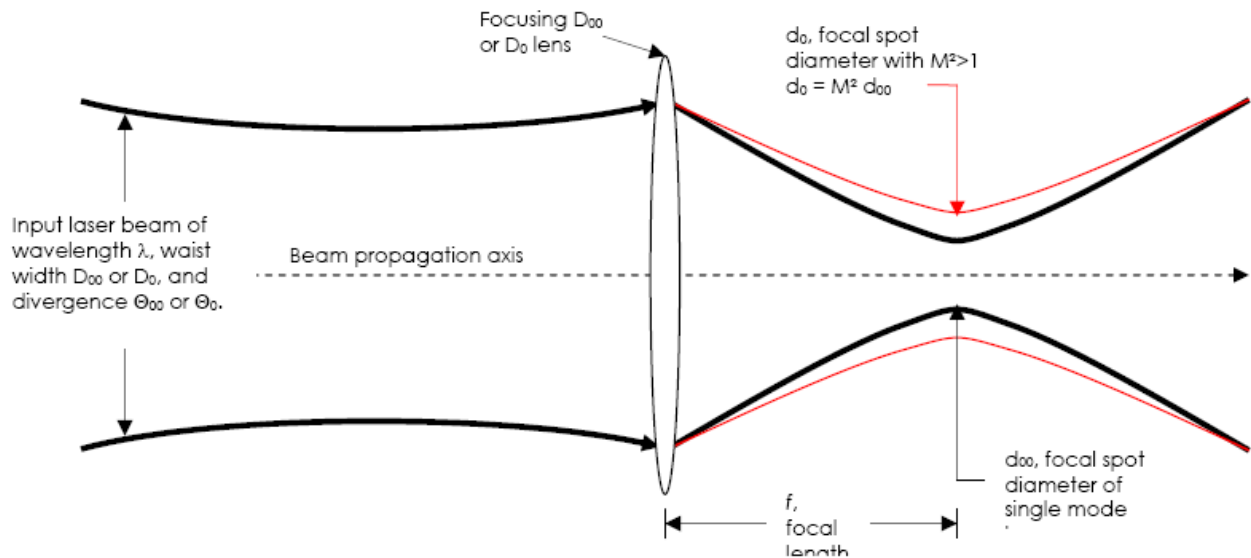

Figure 1. Characteristics of a laser beam as it passes through a focusing lens.
where D_{00} is the ideal focused spot diameter, f is the focal length of the lens, and is placed one focal length from the lens as shown in the Figure 1. However, when a distorted or multimode beam is focused, Equation (3) becomes: